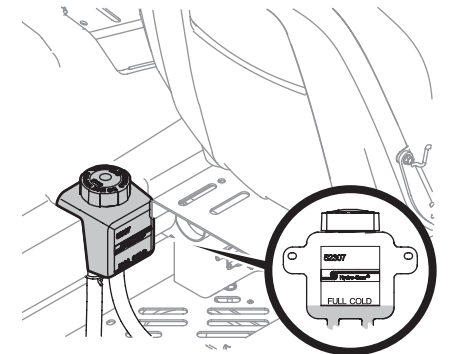

Figure 4-9
- Pivot the operator's seat forward and clean the reservoir cap and the area around the cap to prevent debris from contaminating the transmission oil. See Figure 4-9.
- Turn the reservoir cap counterclockwise to remove, then check the oil level in the reservoir. Oil should be visible at the bottom of the cup, but the oil level must NOT be above the "FULL COLD" line. See Figure 4-9. DO NOT FILL THE RESERVOIR.